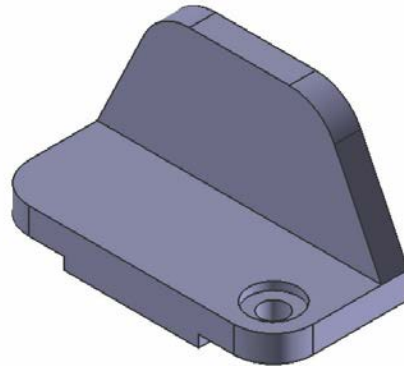

Figure 7-97 Model after creating the counterbore hole
- Create a counterbore hole on the right of the base feature by using the center point of the edge blend on the right, refer to Figure 7-97.
2. Use the center point of the edge blend feature to place the counterbore hole. The model after creating the counterbore hole is shown in Figure 7-97.